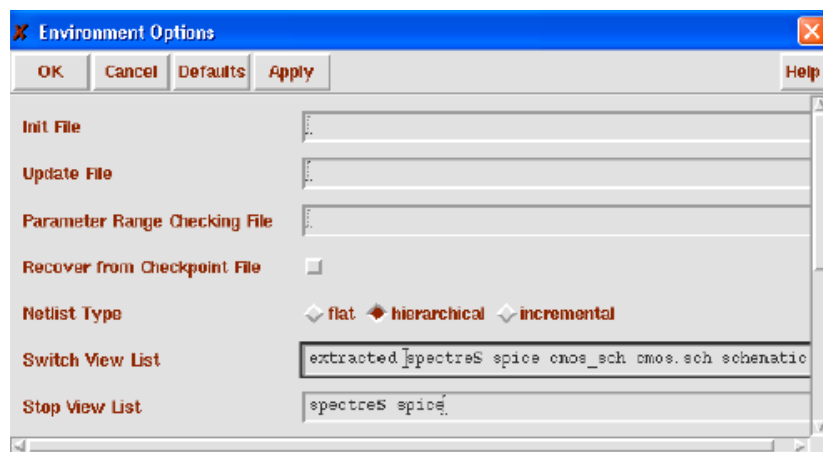

Figure 29. Simulation environment options
- *Save the waveforms displayed in the waveform window in a graphic file (e.g., PS).* In the waveform window (Fig. 10), select **Window>Hardcopy**. The window in Fig. 29 pops up. Deselect **Plot with Header** and **Mail Log to ...** options. Select the type of graphic format choosing the **Plotter Name** (ps106-q for PS), select **Send Plot only to File** and write the filename. Finally, click OK.